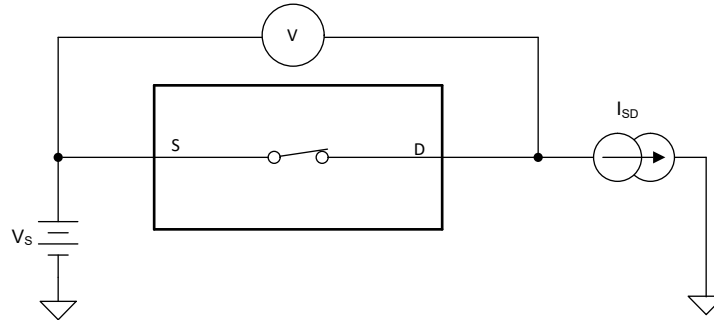

图 7-1. On-Resistance Measurement Setup
The On-Resistance of a device is the ohmic resistance between the source (Sx) and drain (Dx) pins of the device. The On-Resistance varies with input voltage and supply voltage. The symbol R_{ON} is used to denote On-Resistance. 图 7-1 shows the measurement setup used to measure R_{ON} . Voltage (V) and current (I_{SD}) are measured using this setup, and R_{ON} is computed with $R_{ON} = V / I_{SD}$.